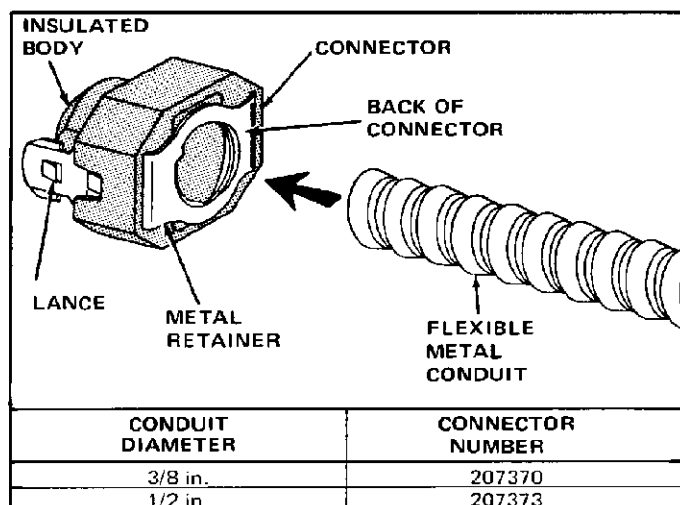

Fig. 1
This instruction sheet (IS) covers the installation of AMP Flexible Metal Conduit Connectors shown in Figure 1. These connectors are designed for use with flexible metal conduit and junction boxes that have been listed by Underwriters' Laboratories (UL).
1. Align the back of the connector with the conduit as shown in Figure 1.